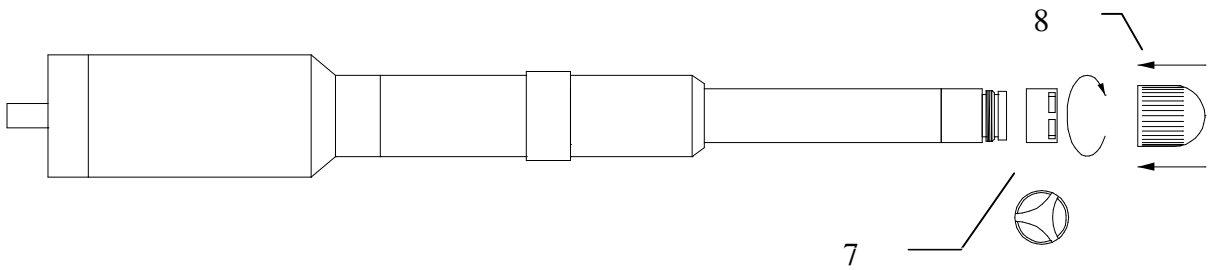

Fig. 4. Assembly of weatherproof microphone – step 4.
- Screw SM weatherproof protective grid (7) to the microphone (Fig. 4).
- Put OK rain cover (8) on the microphone (Fig. 4).